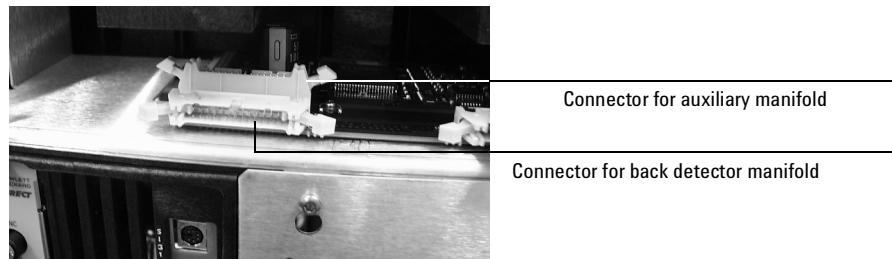

Figure 360-7 Auxiliary and back detector connectors
9. Connect the ribbon cable to the mating connector on the pneumatics board. This is behind the connector for the back detector and faces up. See Figure 360-7.